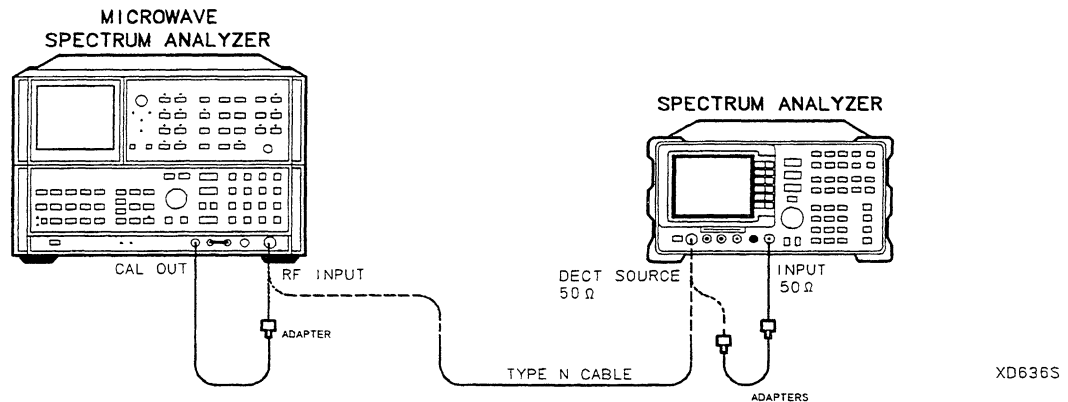

Figure 9-7. LO Feedthrough Amplitude Test Setup
2. Connect the 23 cm BNC cable between the DECT SOURCE 50 Ω and INPUT 50 Ω connectors on the spectrum analyzer, using the N(m) to BNC(f) adapters. Refer to Figure 9-7.
- Connect the Type N cable from the DECT SOURCE 50 Ω output to the microwave spectrum analyzer RF INPUT. Refer to Figure 9-7.